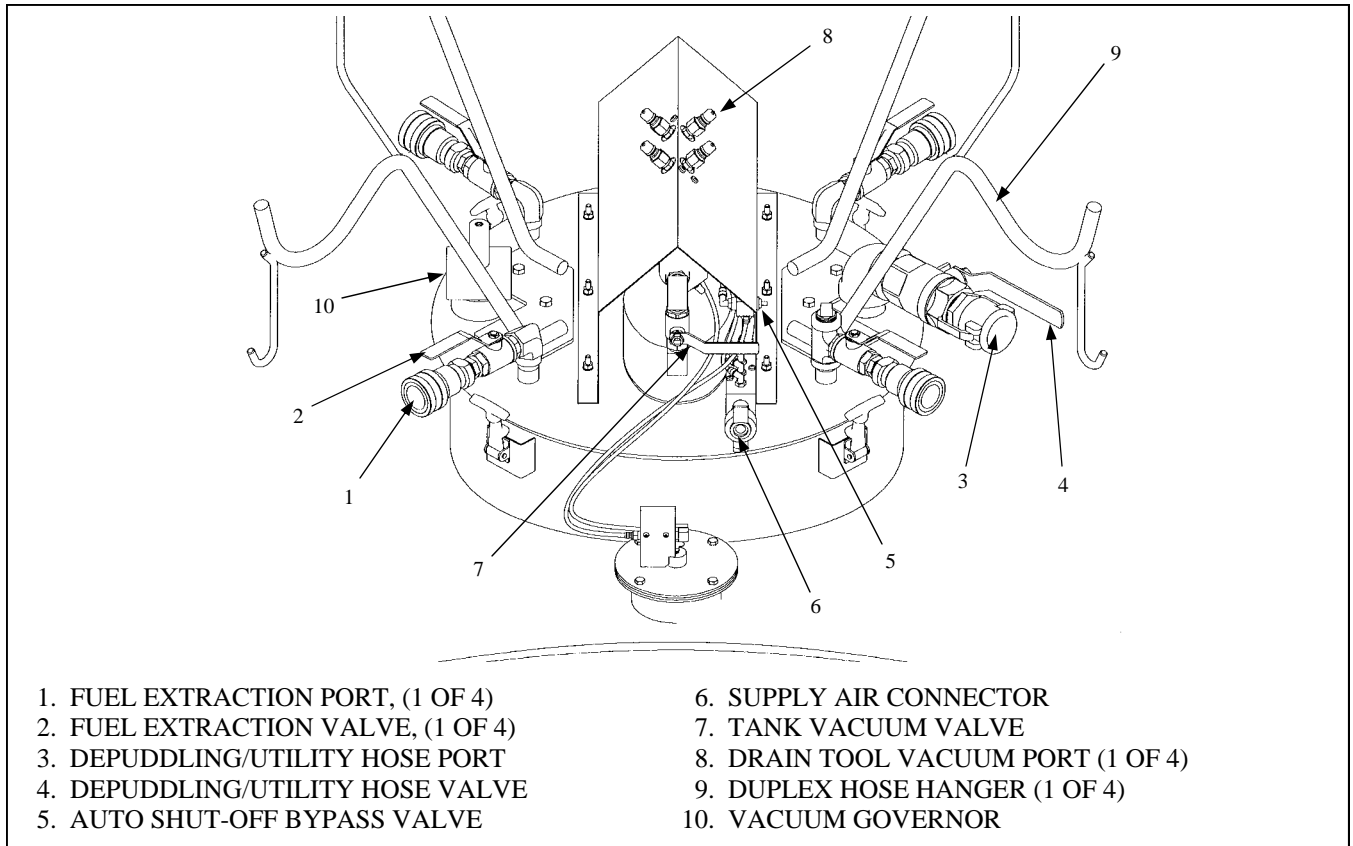

Figure 4-1. Component Identification - Vacuum System Assembly
Refer to Table 4-1 and Figure 4-1 for descriptions and locations of all the controls and indicators.
4.5.6 Auto Shut-off Bypass Valve Operation. The Auto Shut-off Bypass Valve; see Figure 4-1, 5, is intended to be used when tank vacuum is needed to clear fuel from hoses after the tank has reached capacity. The valve bypasses the Auto Shut-off feature and should be used with extreme caution. These operational step requires two people.
- a. Close all Fuel Extraction Valves (2).